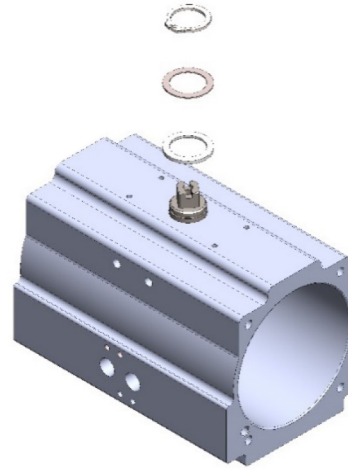

Figure 11: Snap Ring, Thrust Washer and Thrust Bearing
1. Remove the snap ring, thrust washer and thrust bearing from the top of the pinion. See figure 11.